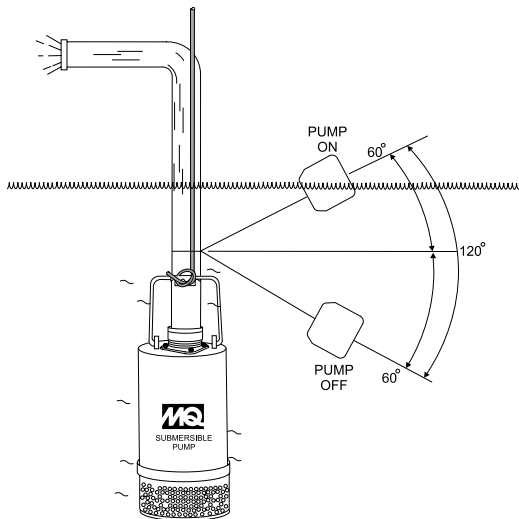
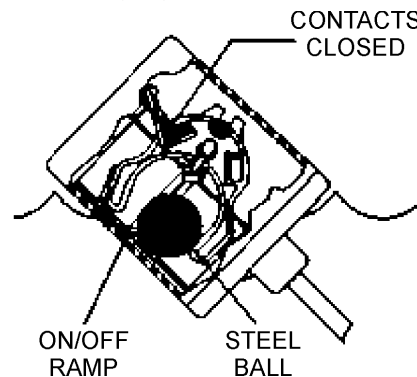
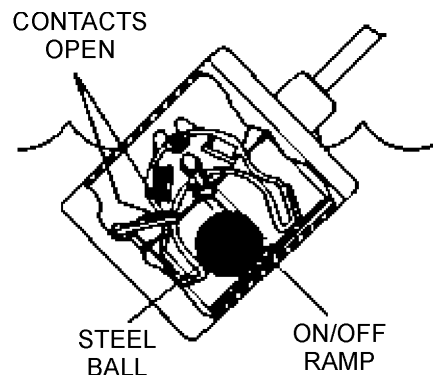

Figure 5. Pumping Range (Float Switch)
Figure 6. Float Switch (Closed)
Figure 7. Float Switch (Open)
The mechanical float switch control will turn ON (close) when the float tips 45° above -horizontal, indicating a high level, and turns OFF (open) when the float switch drops 45° below horizontal. Reference Figure 6 and Figure 7. Maximum pumping range is 120 degrees. See Figure 5 below.
1. Determine the required **cord tether length** as shown in Figure 5 and Table 3.
1. Remove the float switch input connector housing, then route the float switch wires through the cable gland on the control box. Attach the wires of the float switch to the terminal block as indicated by Table 5 and Figures 7, 8 and 9.